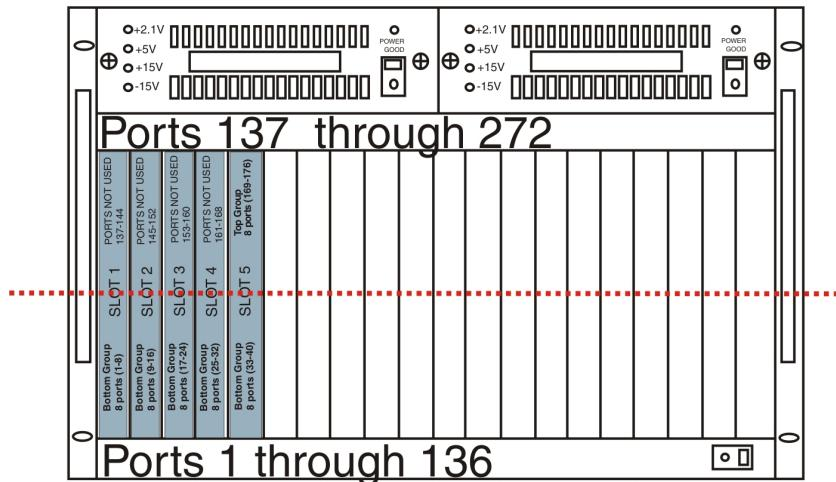

FIGURE 6. ADAM frame with both AIO-8 and AIO-16 cards.
The ADAM Intercom System can run both the AIO-8 and AIO-16 card in the same frame. You can position your AIO-8 and AIO-16 cards in any slot or in any sequence within the ADAM frame. However, when mixing the AIO-8 and AIO-16 cards, it is important to know the port numbering is consistent with the 2-tier port system. For example, in slots 1, 2, 3, and 4, you have AIO-8 cards and in slot 5 you have an AIO-16 card. The port numbering scheme assigns eight (8) ports per card for the first four (4) slots. When assigning ports to slot 5, the bottom group of ports are assigned in sequence with the AIO-8 cards; however, the top group of ports associated with the AIO-16 card are assigned the corresponding ports with the card position. This means ports 137 through 168 are unused and the top group of ports used by the AIO-16 card starts with port 169 (see Figure 6).